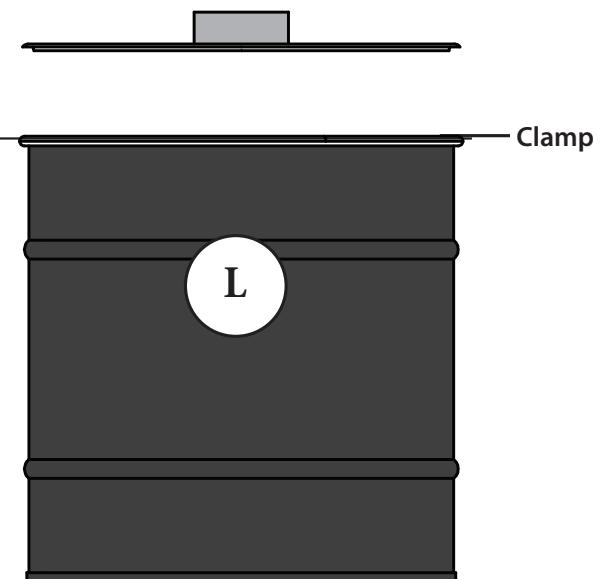

FIG. 28
28 Seal the Drum (L) closed using the provided clamp [FIG. 28].